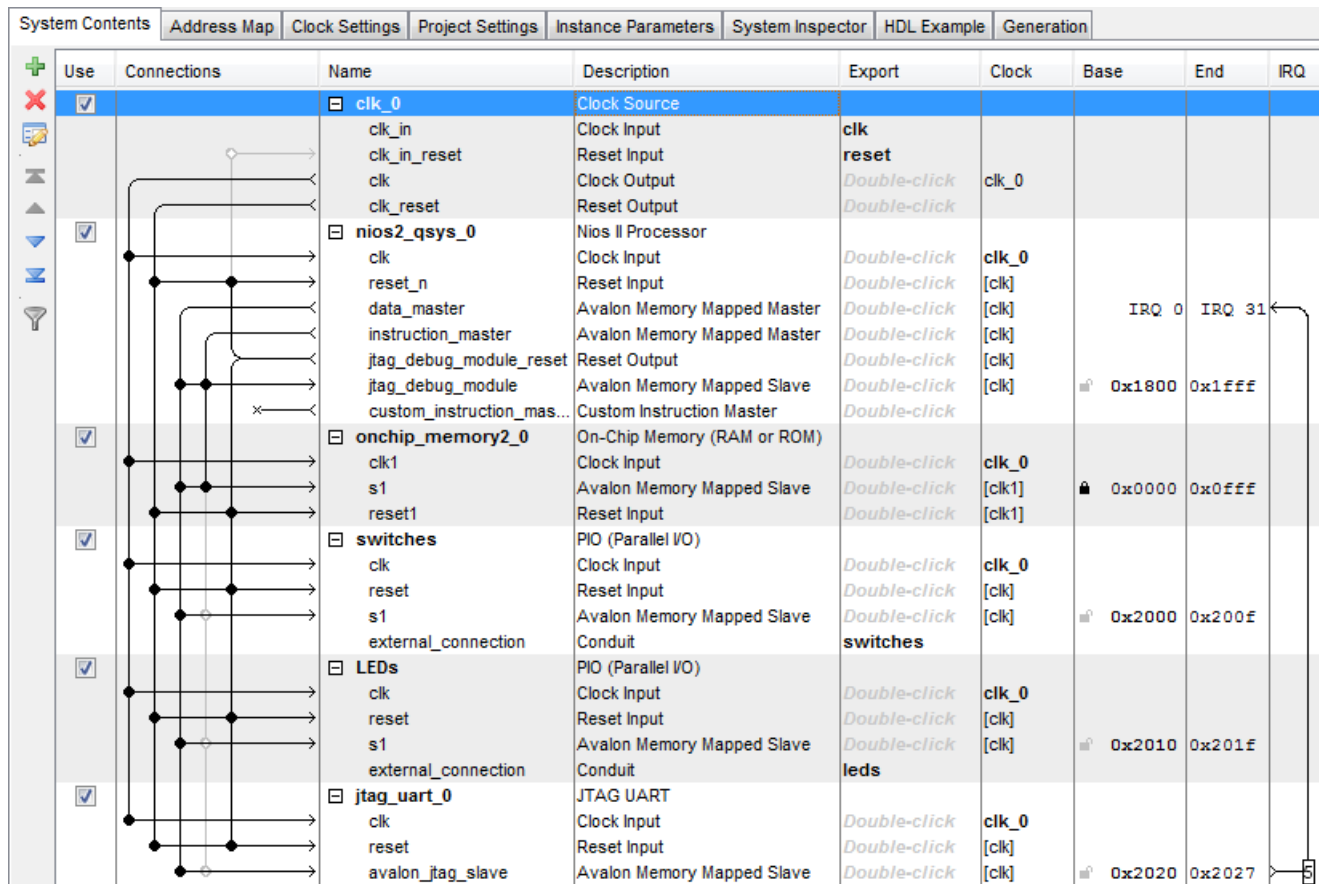

Figure 19. The complete system.
14. So far, we have specified all connections inside our *nios_system* circuit. It is also necessary to specify connections to external components, which are switches and LEDs in our case. To accomplish this, double click on Double-click (in the Export column of the System Contents tab) for *external_connection* of the switches PIO, and type the name *switches*. Similarly, establish the external connection for the lights, called *leds*. This completes the specification of our *nios_system*, which is depicted in Figure 19.